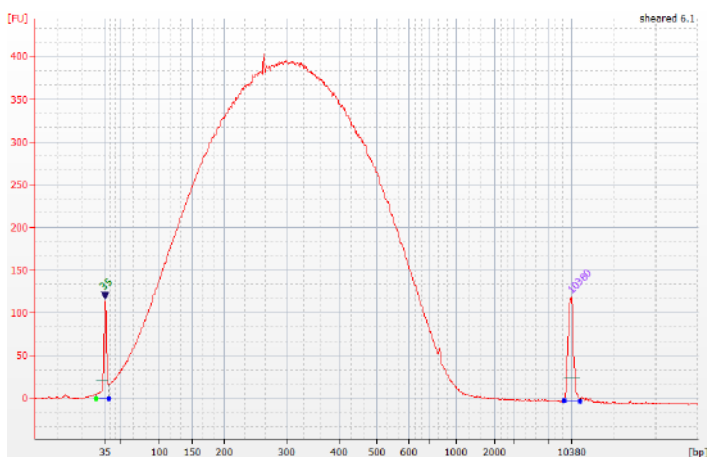

Figure 1: Typical Bioanalyzer trace for gDNA sheared to 300 bp.
- Analyze 1 µL of the sheared DNA on a Bioanalyzer High Sensitivity Chip to determine size distribution. See Figures 1 and 2 below for typical Bioanalyzer traces.